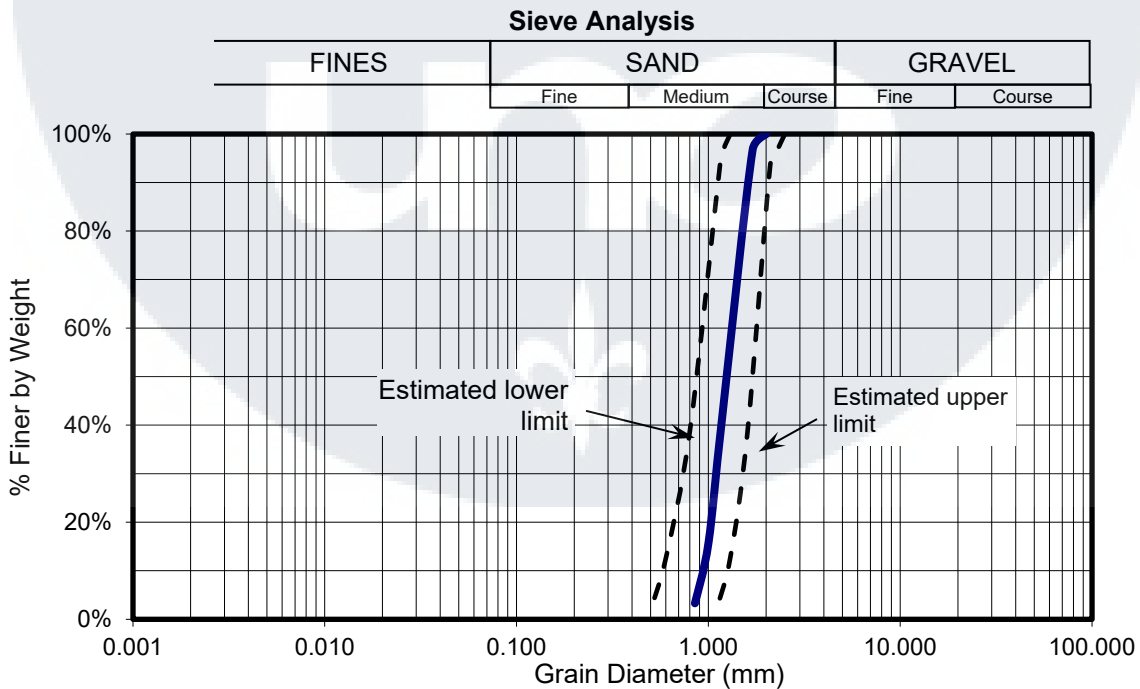

Figure 3: Estimated grain size distribution of backfill sand
6. **Backfill Material** - The backfill material will be sand provided by competition organizers on site. The sand will be a clean, dry, rounded to subrounded sand with grain size as specified in Table 1 and Figure 3. The backfill material must be used as-is: no water, additives, or chemical stabilizers may be placed in the backfill material.
Competition organizers will make reasonable efforts to ensure the competition backfill materials meet the specifications in Table 1 and Figure 3. Teams will be allowed to examine a sample of the competition backfill at the captains’ meeting. No backfill samples may be removed from the meeting room. Teams may modify their wall design at this time if they desire. See Section 10 of these rules.
- Clean sand with grain size distribution as specified in Table 1 and Figure 3